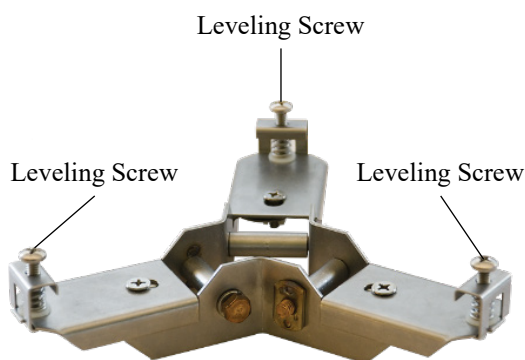
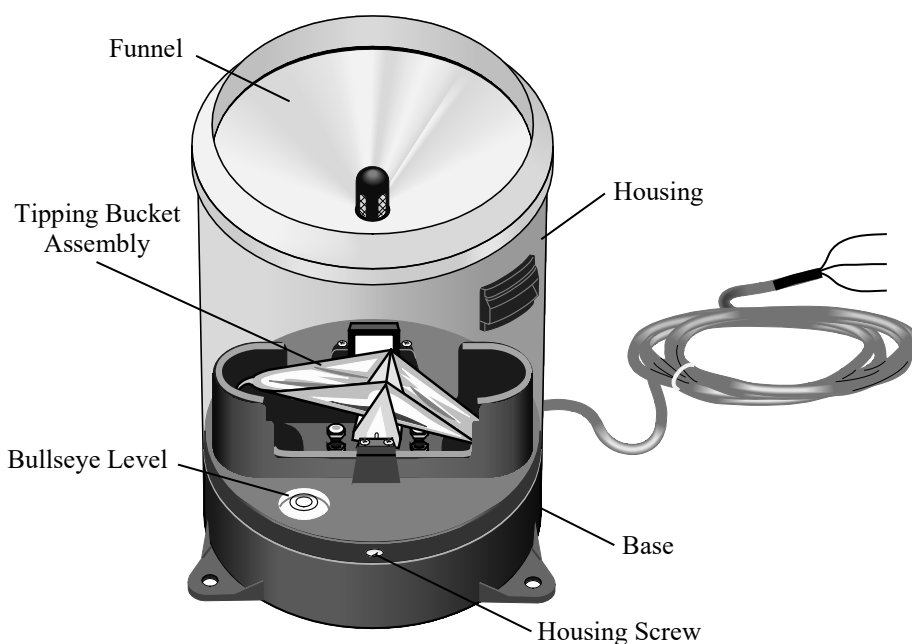

FIGURE 7-4. CM240 Mounting Bracket
FIGURE 7-5. Main Components of the TB4
2. Adjust the three leveling screws on the CM240 bracket to level the gage (FIGURE 7-4). A bullseye level is mounted on the rain gage base to facilitate leveling (FIGURE 7-5).